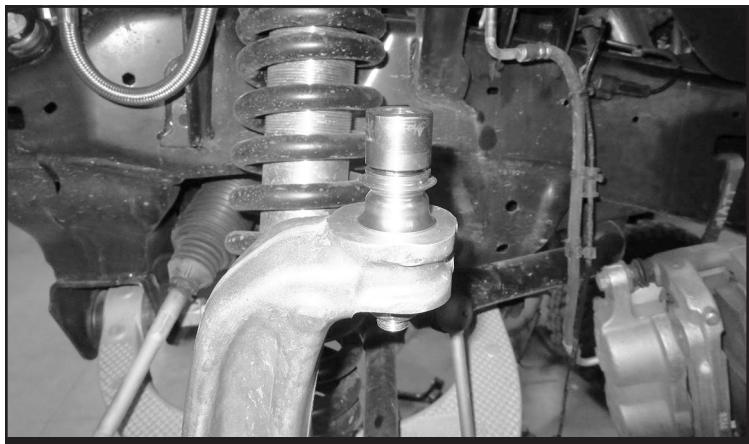

FIGURE 3 - STEP 4
4. Install FT90153 (Lower Misalignment) onto FT94526 (Uniball Pin). Then, install to the knuckle using the provided 9/16" washer and nut. Torque to 120 ft-lbs. **SEE FIGURE 3**